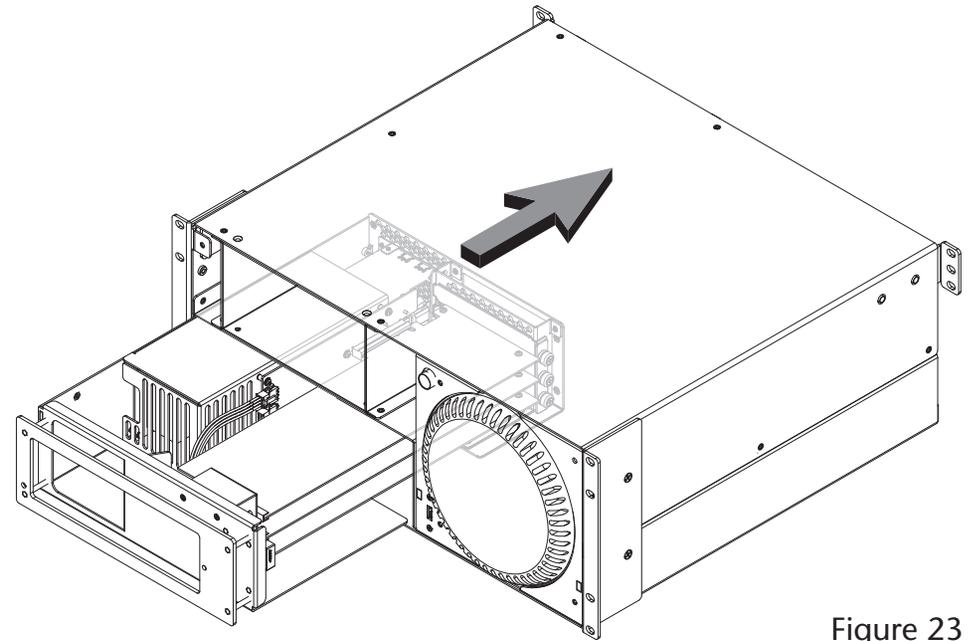

Figure 23
- Carefully slide the PCIe card expansion module into the rackmount enclosure until it stops (Figure 23).